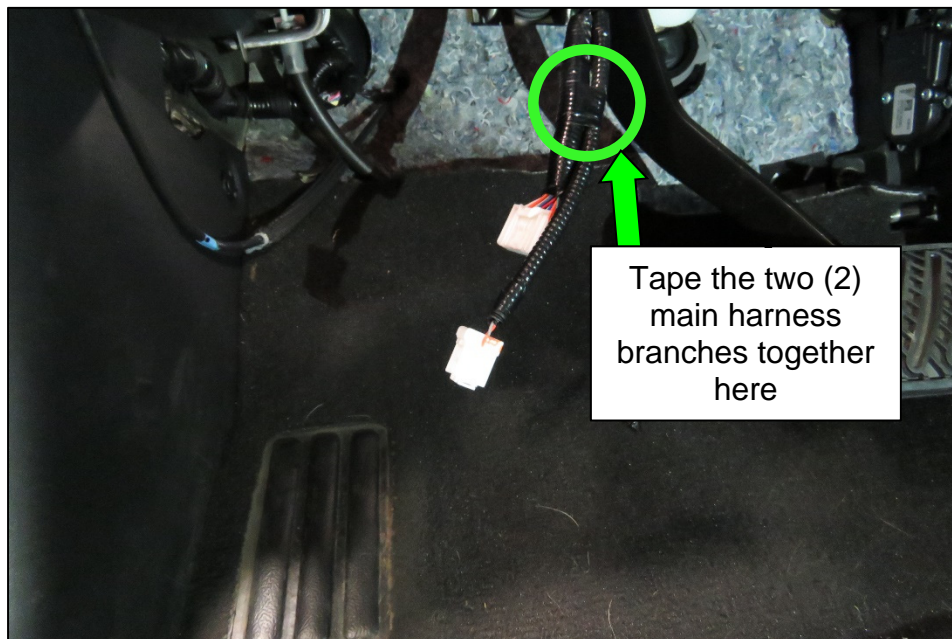

Figure 8
- Tape the two (2) main harness branches back together like they were originally (Figure 8).